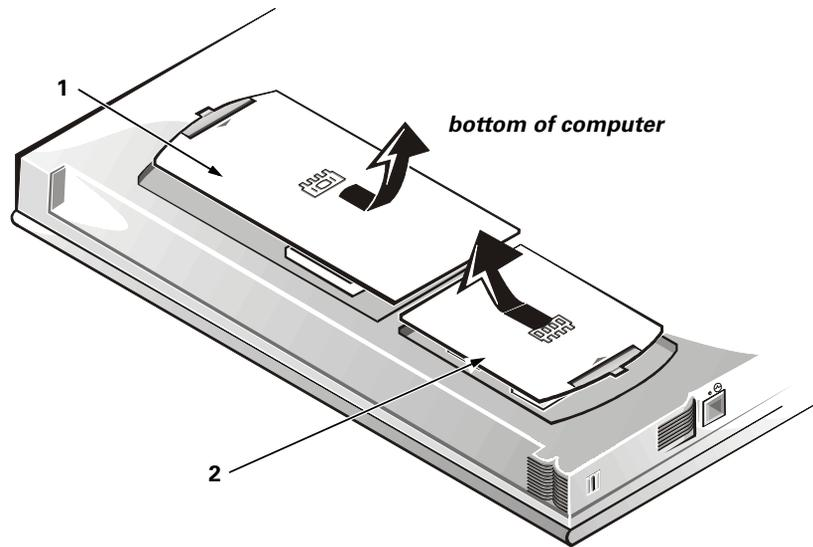

Figure 6. Memory Module Covers
8. Remove the memory module covers (see Figure 6).